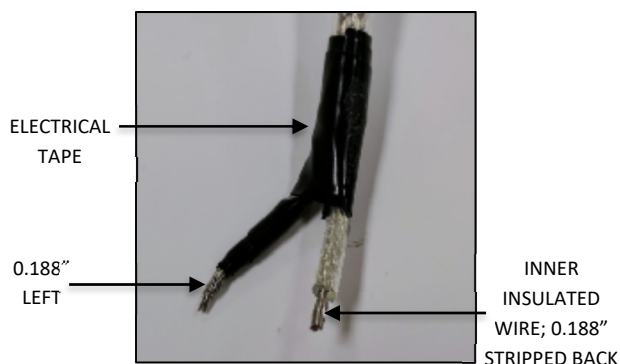
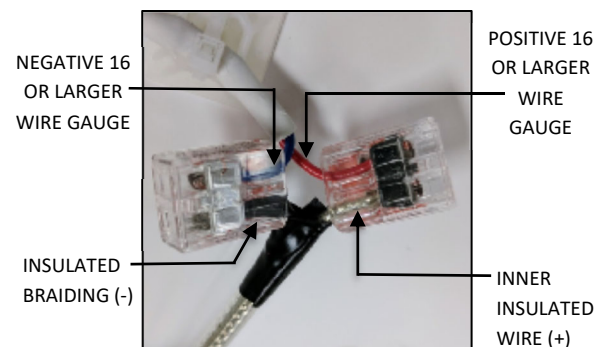

FIG. 30
FIG. 31
- Using electrical tape, insulate the twisted strands leaving 0.188" exposed for connections. Strip off 0.188" of the inner insulation as you normally would for 18AWG stranded core wire as shown in FIG. 30 below. Connect the inner insulated wire (+) to the positive 16 gauge or larger wire ran in step 5 at the hanging bracket and Connect the outer braiding (-) to the negative 16 gauge or larger wire ran in step 5 at the hanging bracket FIG. 31 below.